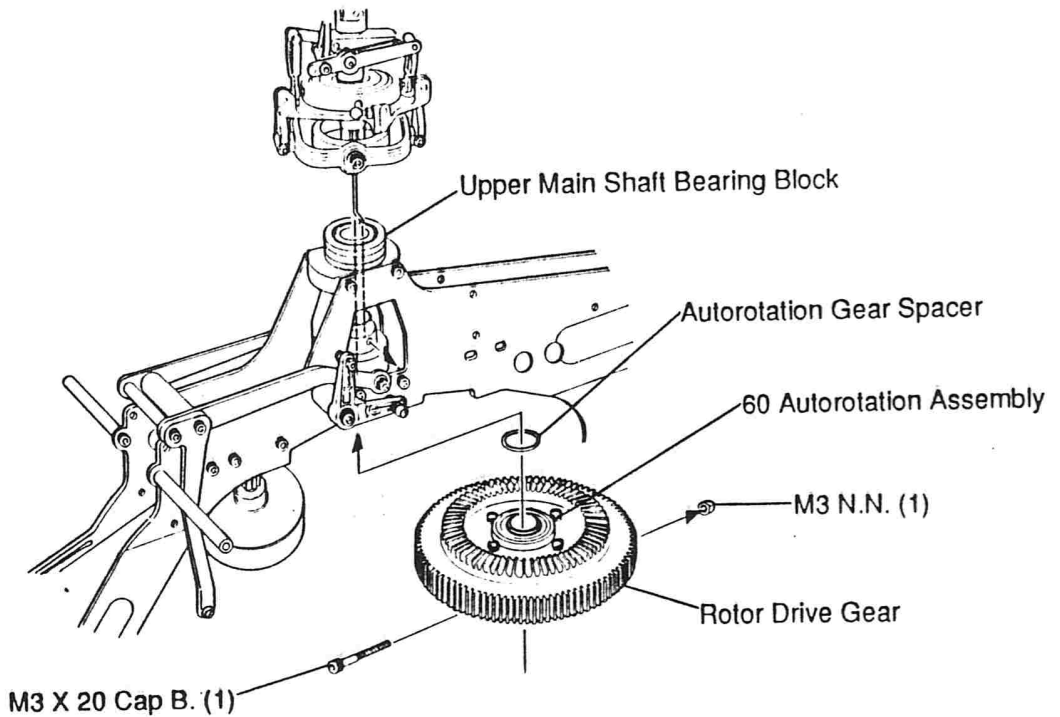

Figure 4-2
- Step 24. Attach the elevator control ring to the phase adjusting ring using (2) M3 X 8 cap bolts and Kalt Tite. [(2) M3 X 8 Cap B.]
- Step 25. Bolt a ball joint to the lever of the elevator control ring using (1) M2 X 10 cap bolt. [(1) M2 X 10 Cap B.]
- Step 26. Place the phase adjusting ring onto the upper main shaft bearing block (see figure 4-2). Temporarily position using (4) M4 X 4 set bolts. *Do not* tighten the set bolts yet, they will be tightened at step 34. [(4) M4 X 4 Set B.]
- Step 27. Insert one end of the pitch control rod into the pitch control ring. Slide the rod into the groove in the main shaft, and secure it to the control ring using (1) M3 X 4 set bolt. The pitch control ring *must* move freely on the main shaft. If you feel any friction when rotating it, check the bend in the control rod to insure that it is *exactly* 90°. Also, check for any burrs that might prevent the control rod from fully seating into the control ring. File the inside of the bend, as necessary, to ensure a proper fit. [(1) M3 X 4 Set B.]
- Step 28. Slide the pitch control rod about half way down the main shaft. Insert the scissors arm (C) assembly, swash plate, and swash plate collar – in that order – from the bottom of the main shaft. Pay close attention to the proper position of the scissors arms, so as not to install upside down.